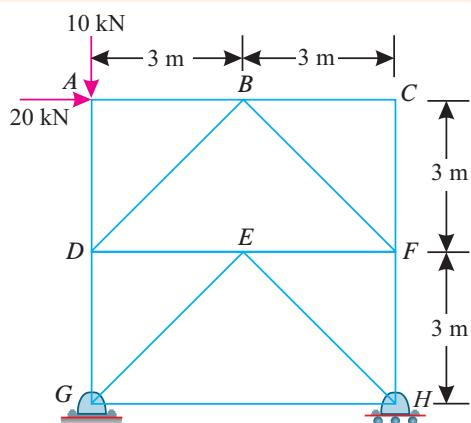

**Fig. 14.55.**
- 1.** A truss shown in Fig. 14.55 is subjected to two point loads at  $B$  and  $F$ . Find the forces in all the members of the truss and tabulate the results.